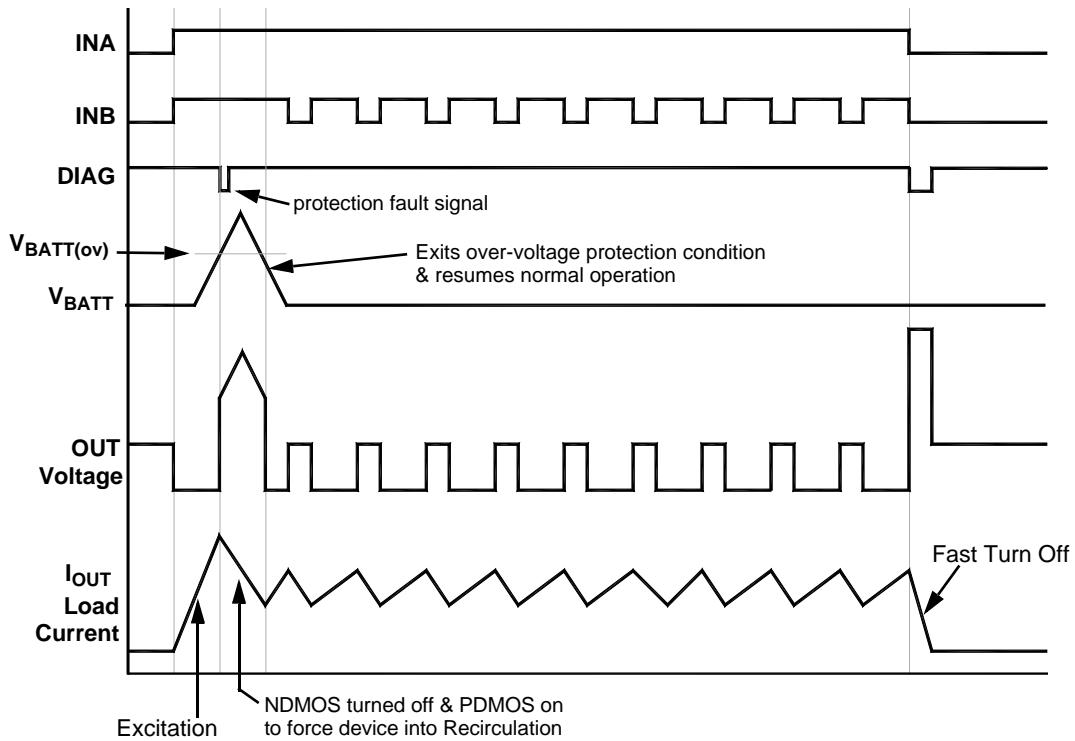

Figure 4. Over-Voltage
**Overvoltage** (see figure 4) While in the Excitation mode if the  $V_{BATT}$  pin rises above the over-voltage threshold,  $V_{BATT(ov)}$ , the FDMS2380 is forced into the Recirculation mode and a protection fault signal on the diagnostic pin **DIAG** is generated. This condition is not reset by **INA** going low but by the voltage of the  $V_{BATT}$  pin returning below the  $V_{BATT(ov)}$  level. A protection fault pulse will be issued each time the device is driven into the Excitation state while the over-voltage condition exists.